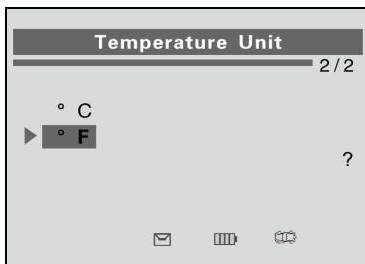

Figure 2.9
- 2) From **Temperature Unit** screen, use the **UP/DOWN SCROLL** button to select the desired unit of temperature.(Figure 2.9)